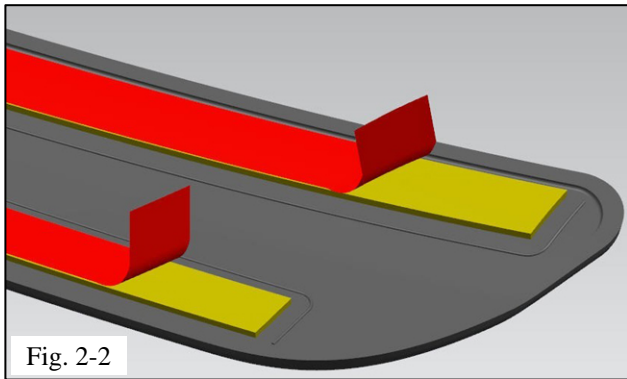

Fig. 2-2
- (b) While carefully holding the rear bumper protector by its edges, pull all the plastic liner tabs at the ends of the tapes to expose approximately 1½” (40mm) of tape (Fig. 2-2).